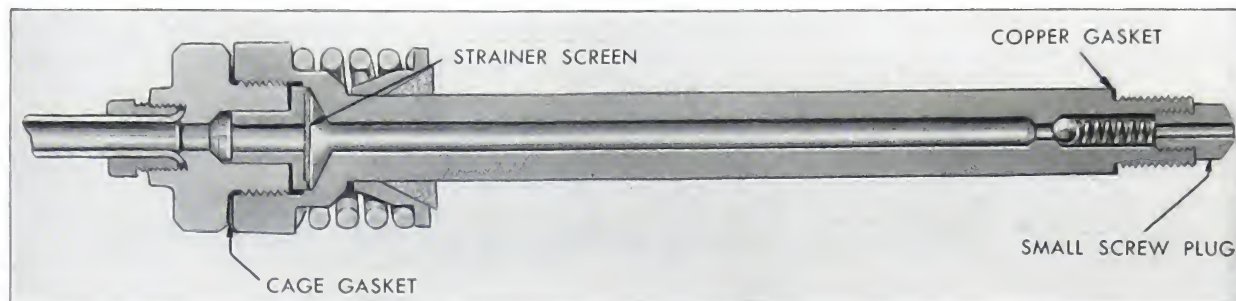

Fig. 6-2. Injector fuel inlet connection
1. Assemble the parts of the inlet connection as shown in Fig. 6-2 using new gaskets.